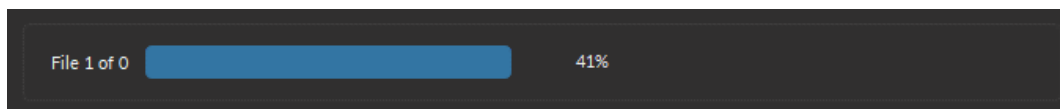

Figure 13.13: *Loading Bar*
4. The **Loading bar** (Fig. 13.11, 4) appears when users selected the **Convert** button at the bottom of the window and indicates the progress of the file conversion (Fig. 13.13).